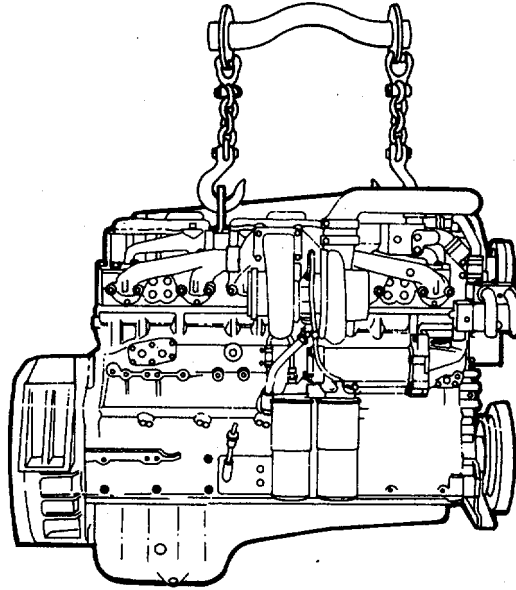

FIGURE 3-2. Lifting Fixture P/N ST-125.
- a. Attach the lifting fixture P/N ST-125 (FIGURE 3-2) to the two lifting brackets on top of the engine.